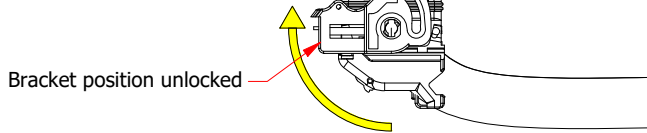

Figure 10
- 6.4 Turn the bracket counter-clockwise to push the molex cable into the connector (Figure 10)